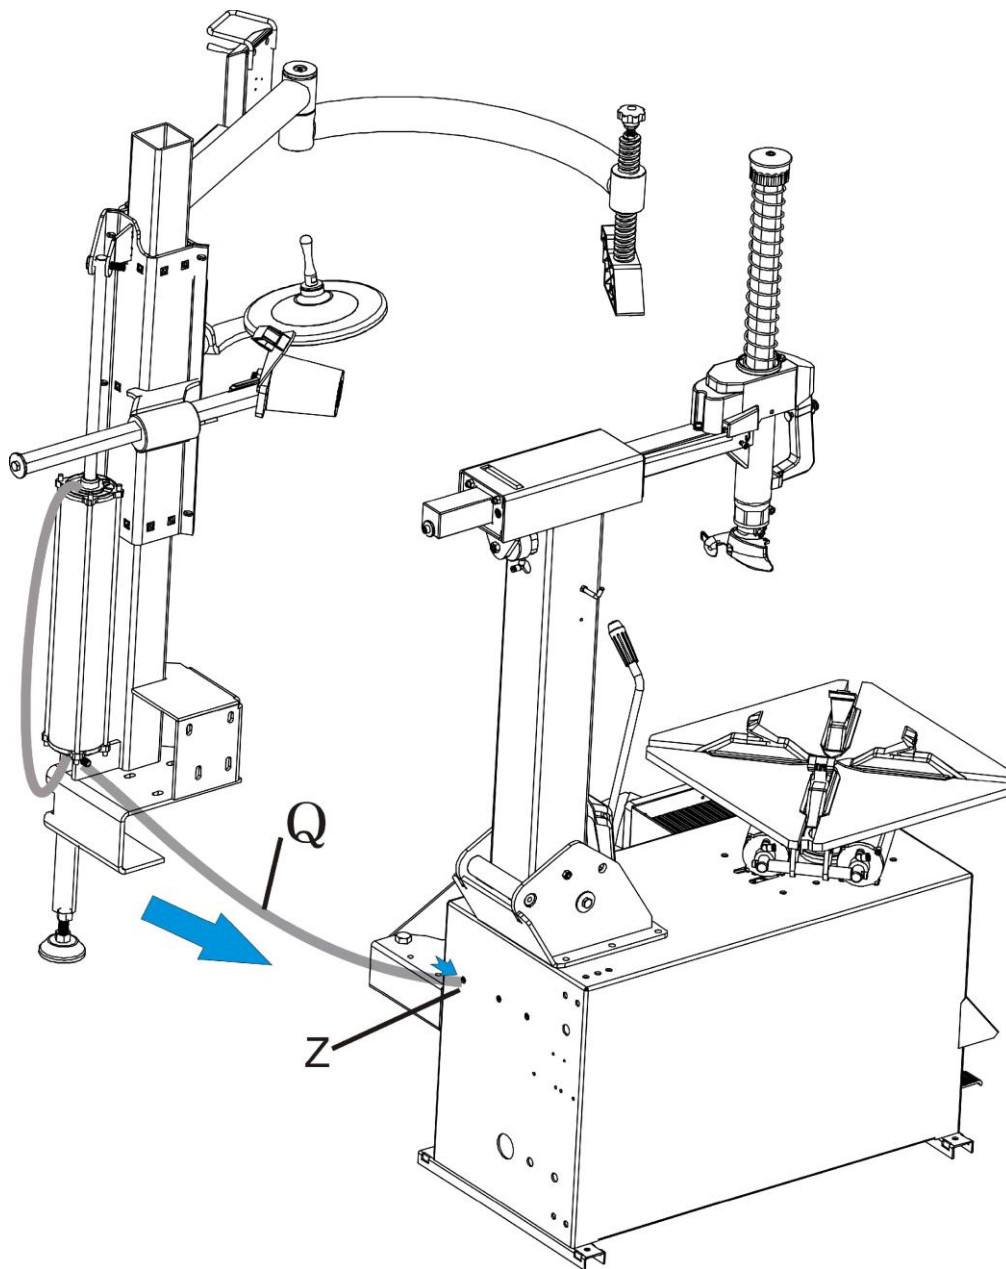

Fig. 7
- Connect the connector on the Q into Z at the back of chassis(Fig.7). (Please remove the cap if these is any) 。